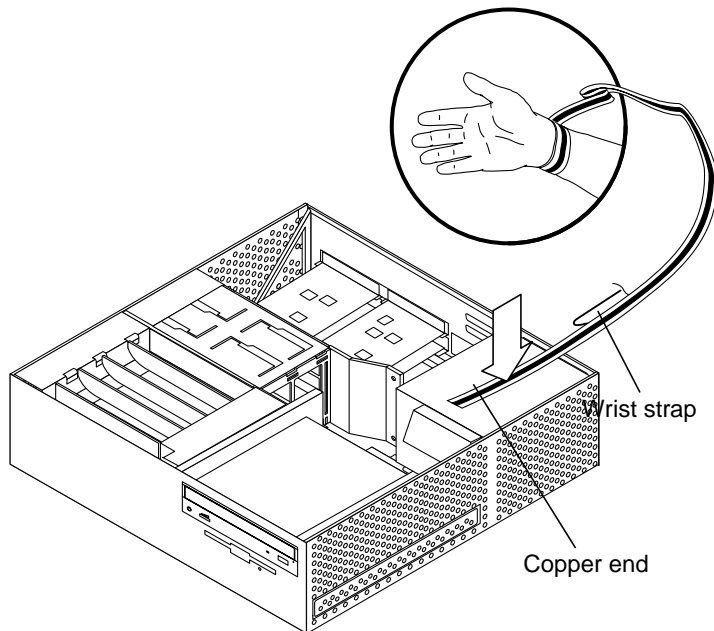

FIGURE 2-4 Attaching the Antistatic Wrist Strap
1. Unwrap the first two folds of the wrist strap and wrap the adhesive side firmly against your wrist (FIGURE 2-4).